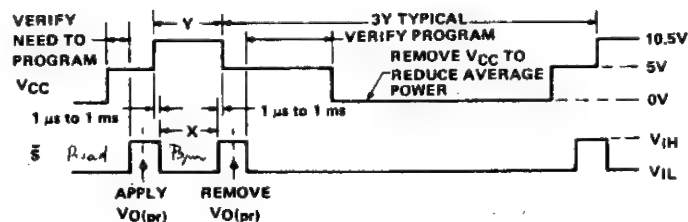

FIGURE 2 — VOLTAGE WAVEFORMS FOR PROGRAMMING
6. Apply a low-logic-level voltage to the chip-select input(s). This should occur between 1  $\mu\text{s}$  and 1 ms after  $V_{CC}$  has reached its 10.5-V level. See programming sequence of Figure 2.